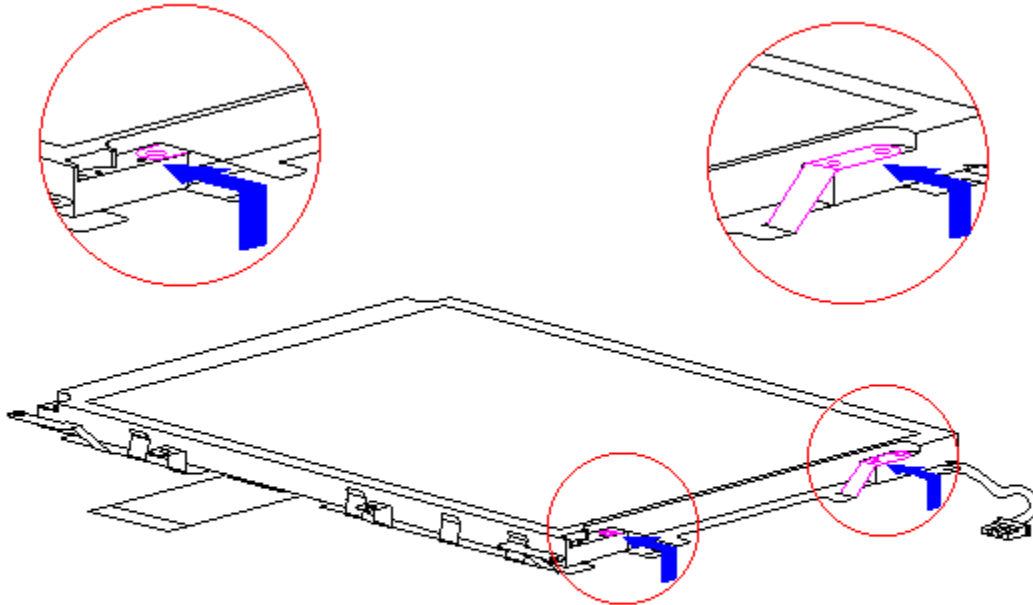

Figure 5-94. Positioning the Display Shield Tabs - CSTN (10.4 in) Display
4. Place the display shield tabs in the indentations on the sides of the CSTN (10.4 in) panel (Figure 5-94).